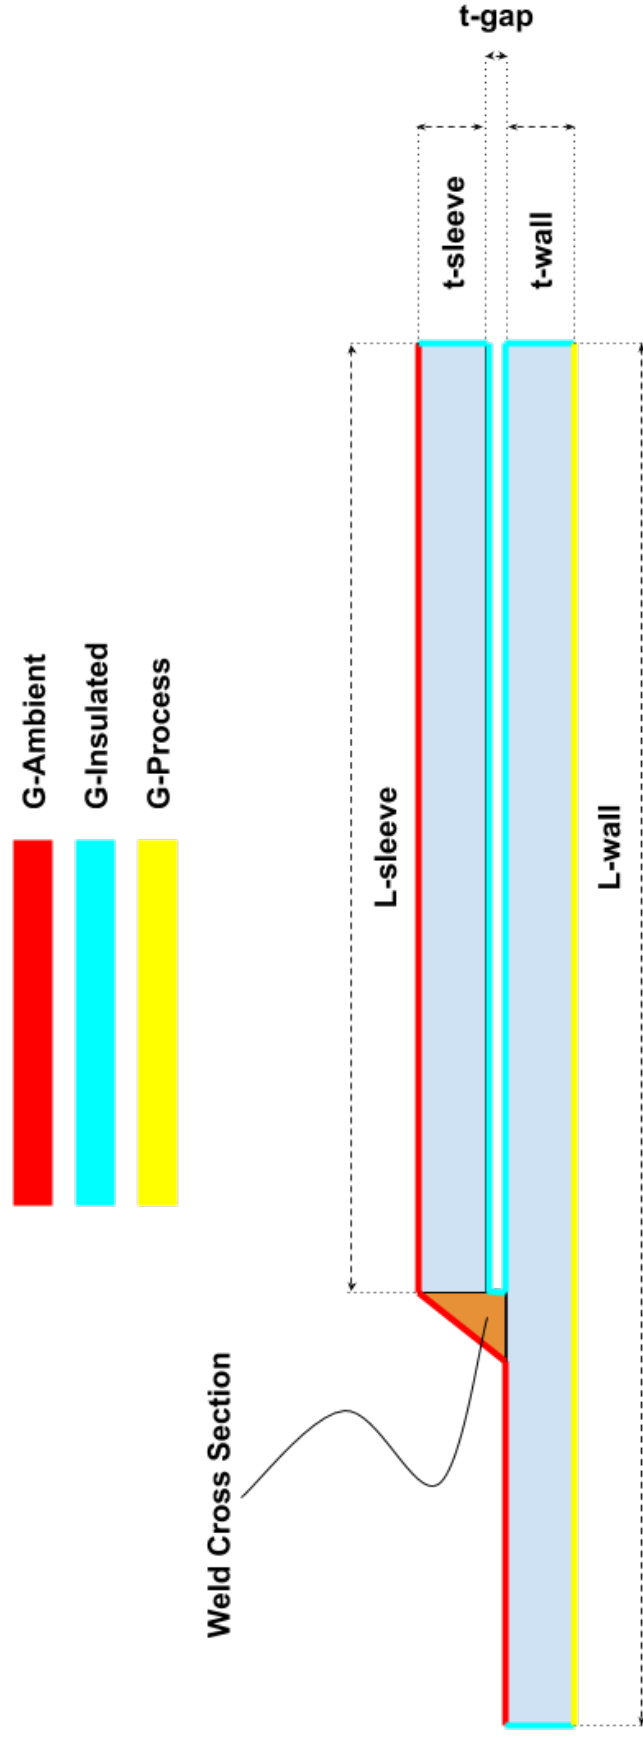

Figure 1: Illustration of the axisymmetric sleeve geometry.
This assessment necessitates an accurate thermal model of the welding process. As an example, suppose we consider the case in which a repair sleeve is welded onto a pressurized pipe filled with a hot process fluid. If we represent this configuration as an axisymmetric geometry with a horizontal axis of rotation, we can visualize one circumferential weld as in Figure 1. With this geometry, we can model the thermal history resulting from a weld pass using the finite element method to solve the heat equation with a time-dependent heat source representing the weld pass.
Suppose you are given the density of steel ρ , the specific heat capacity of steel c_P , the thermal conductivity of steel k , the time-dependent source term representing the heat imparted by the weld $f(x, t)$, the heat transfer coefficient and ambient reference temperature (h_{ambient} and T_{ambient} , respectively) corresponding to G-Ambient, the heat transfer coefficient and process fluid temperature (h_{process} and T_{process} , respectively) corresponding to G-Process, and the geometry in Figure 1. Assuming Neumann boundary conditions, setup and solve this heat transfer problem in Python using the FEniCS finite element package for $0 \leq t \leq 10$ seconds. For the purpose of simplifying the finite element model of the weld pass, also assume the following:
- 1) The weld cross section corresponds to the triangular region in Figure 1, which is assumed to be an isosceles right triangle. We denote this region as \mathcal{W} .
- 6) The geometry is characterized by the dimensions in Figure 1. Specifically, assume that t-sleeve = t-wall = 0.188 in, L-wall = 1.5 · L-sleeve, L-sleeve = 10 · t-wall, and t-gap = 0.02 in.